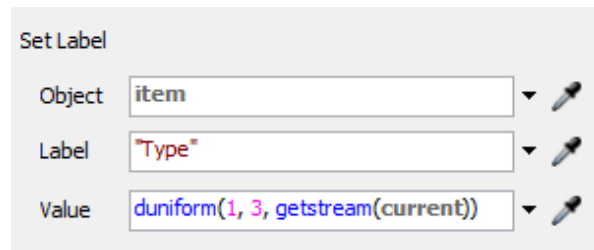

Fig. 8 Set Label option
1. **Set Label** – allows you to change the value of an existing label or add a new label with a given value. In *the Object* field, you specify the object to which the label is assigned, in the *Label* field, you define the name of the label, and in the *Value* field, its value (Fig. 8).